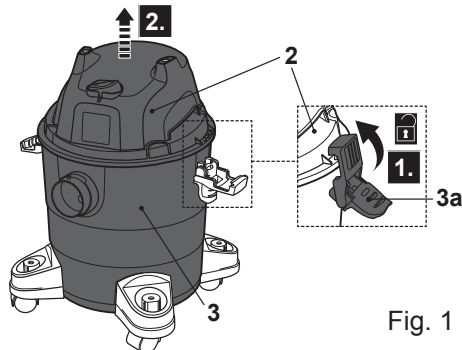

Fig. 1
- > Unlock the clasps (3a) and disassemble the motor unit (2) and tank (3) (Fig. 1).